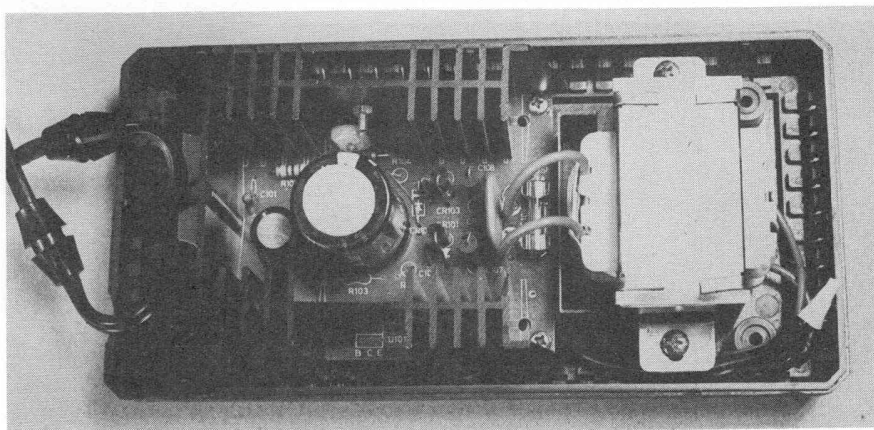
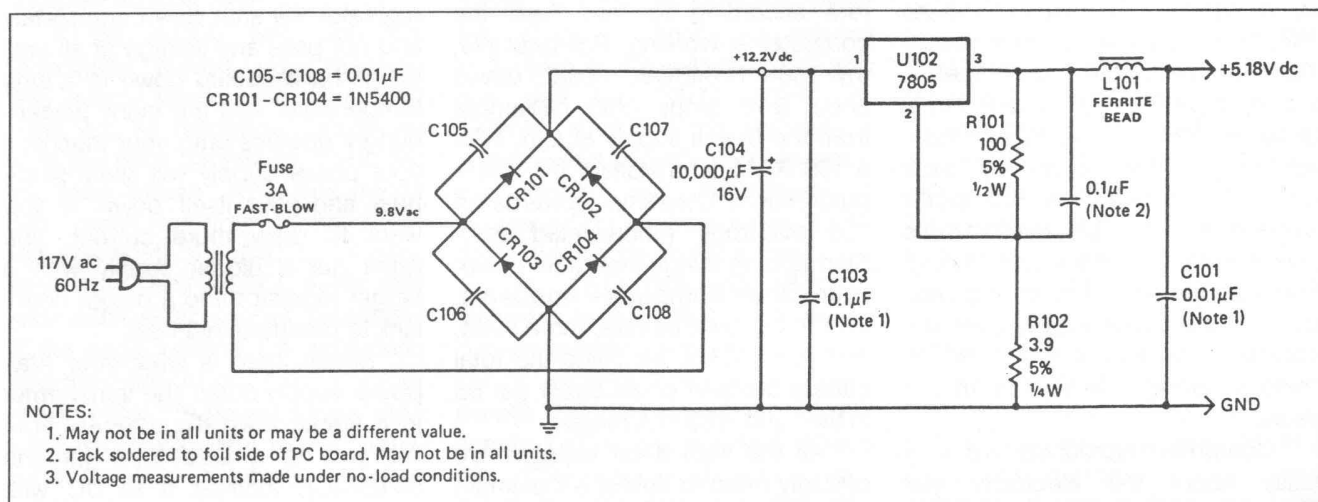

Figure 2. This is the interior view of the author's Type I power supply, slightly modified.
Figure 3. This is the schematic diagram of the Type I power supply. Component designations in all schematics correspond to locations screened on pc boards.
Figure 2 is an interior view of this supply, and its schematic diagram is in Figure 3. The component most likely to fail in this circuit is the 3-amp fuse; you can buy a replacement inexpensively at Radio Shack. The critical component in this supply is the U102 7805 voltage regulator chip. The 7805 is fastened to the large heat sink that completely surrounds the circuit board. The Type I supply has the largest heatsink of the four supplies. The cooling fins on the heatsink carry
Eyeballing Figures 3 and 4, you can see all the usual components one would expect: the AC step-down transformer, the rectifier diodes, the filter capacitor (large round cylinder in the center of the circuit board); the 7805 regulator is hidden by the heatsink. However, there are some extra parts present whose function might not be so obvious. For example, the small ceramic capacitors *C105-C108* in parallel with the diodes: these little caps bypass any radio frequency (RF) noise to ground. The small capacitor *C103* serves a similar function. Capacitor *C101*, along with inductor *L101* and the undesignated .1uF capacitor, together form a filter to suppress any RF that might be "riding along" on the DC output.